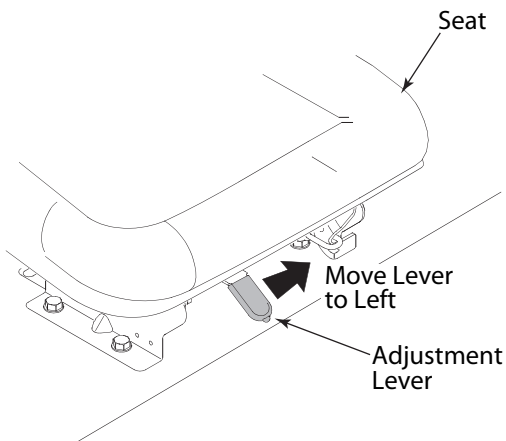

Figure 6-5
- To adjust the position of the seat, move and hold the seat adjustment lever toward the left. Slide the seat forward or rearward to the desired position; then release the adjustment lever. Make sure seat is locked into position before operating the tractor. See Figure 6-5.